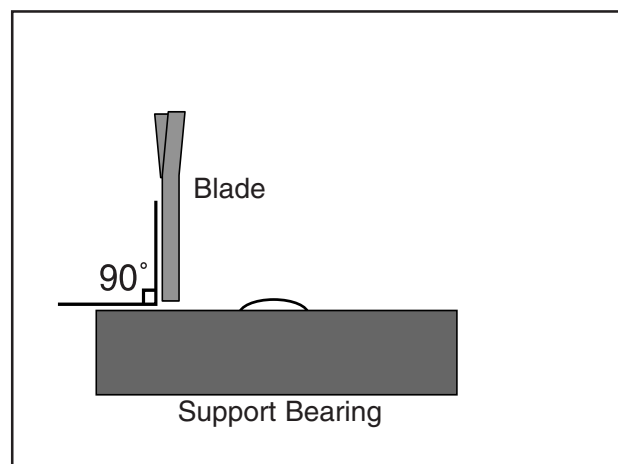

Figure 41. Illustration of blade set perpendicular (90°) to the support bearing face.
4. Loosen the guide block assembly screw and rotate the blade guide assembly side-to-side, until the blade is perpendicular with the face of the support bearing, as illustrated in **Figure 41**.
5. Make sure that the blade is perpendicular to the face of the support bearing, as illustrated in **Figure 41**.